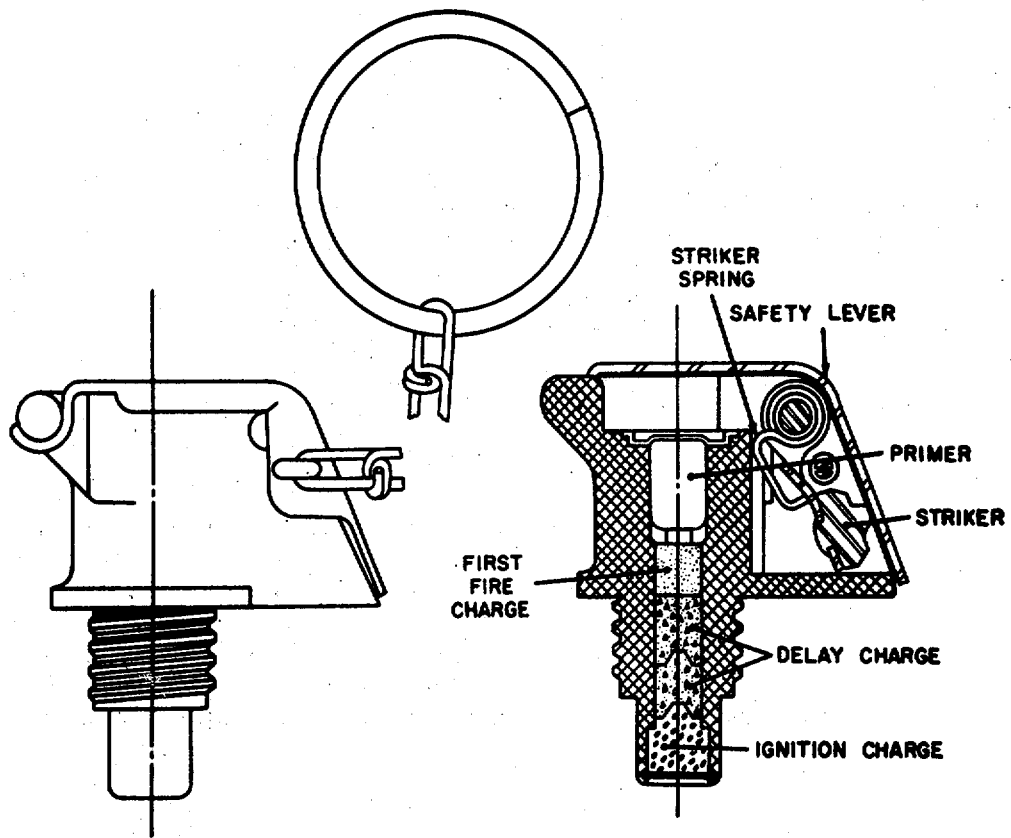

Figure 9. M207A1 floating smoke pot fuze.
- (2) Starter mixture in a plastic cup is embedded in the smoke mixture. The filling is separated from the air chamber above by a plastic closure disk held in place by a metal retainer.
- (3) The M207A1 smoke pot fuze (fig. 9) is screwed into the fuze adapter in the inner cover. An igniter tube extends downward from the lower end of the fuze adapter to the starter mixture.